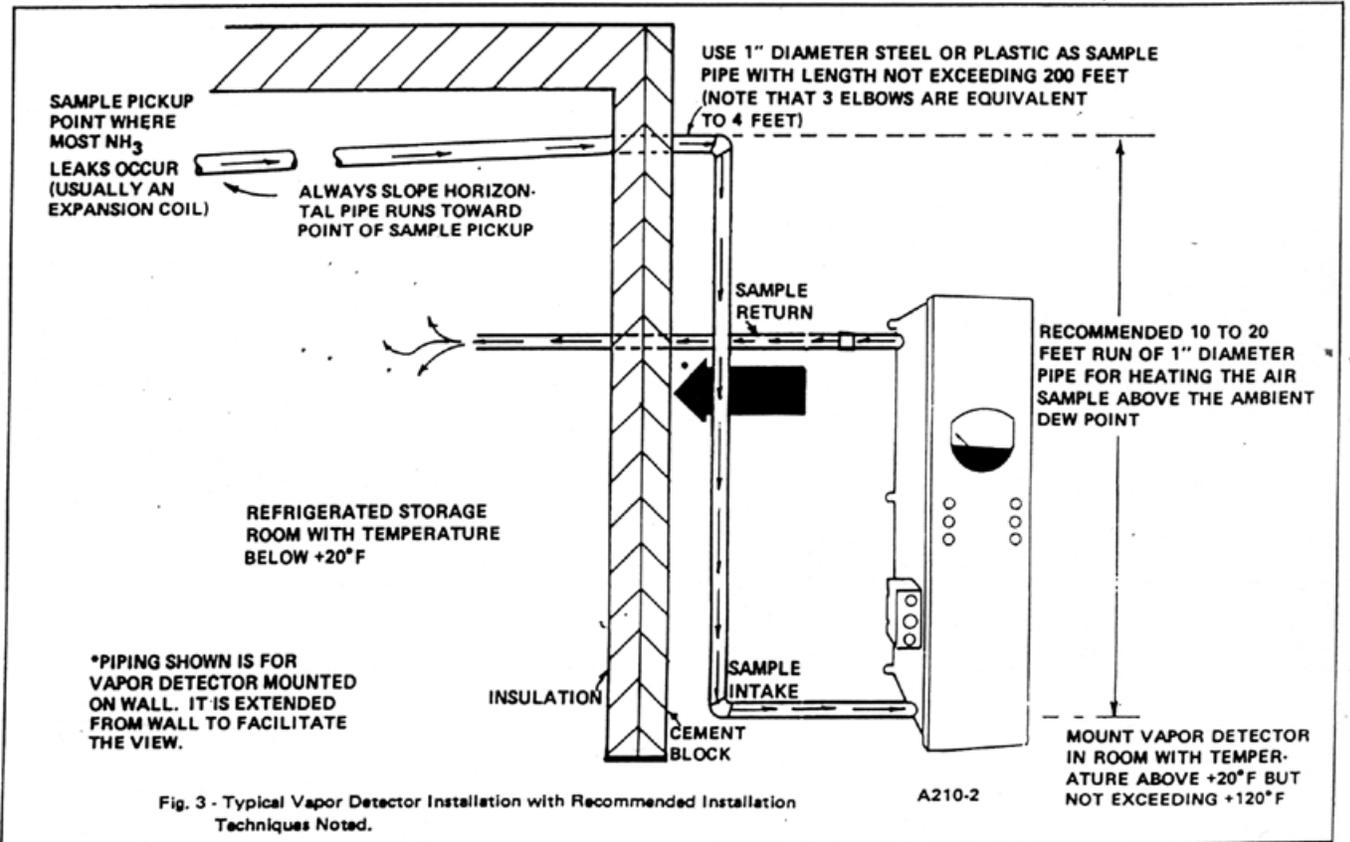

Fig. 3 - Typical Vapor Detector Installation with Recommended Installation Techniques Noted.
Fig. 3 illustrates a typical ammonia detector installation, and includes recommended installation techniques to ensure optimum performance. Consider points stated in Fig. 3 when selecting the mounting location. Also, mount the detector where it can be conveniently monitored and serviced. Note that the detector case is not suitable for mounting in unprotected outdoor environments. The case can withstand differences between inside and outside case pressures up to 3 psig.
3. Use 1-inch diameter steel or plastic pipe for sample intake and return piping. Connect piping directly or by flexible plastic hoses to inlet and outlet flanges on detector. A piping adapter kit consisting of two 3-inch long pipe nipples and two 18-inch long plastic hoses is available by ordering part number ADL 50909. Before installing piping, refer to Fig. 3 and review the following considerations.